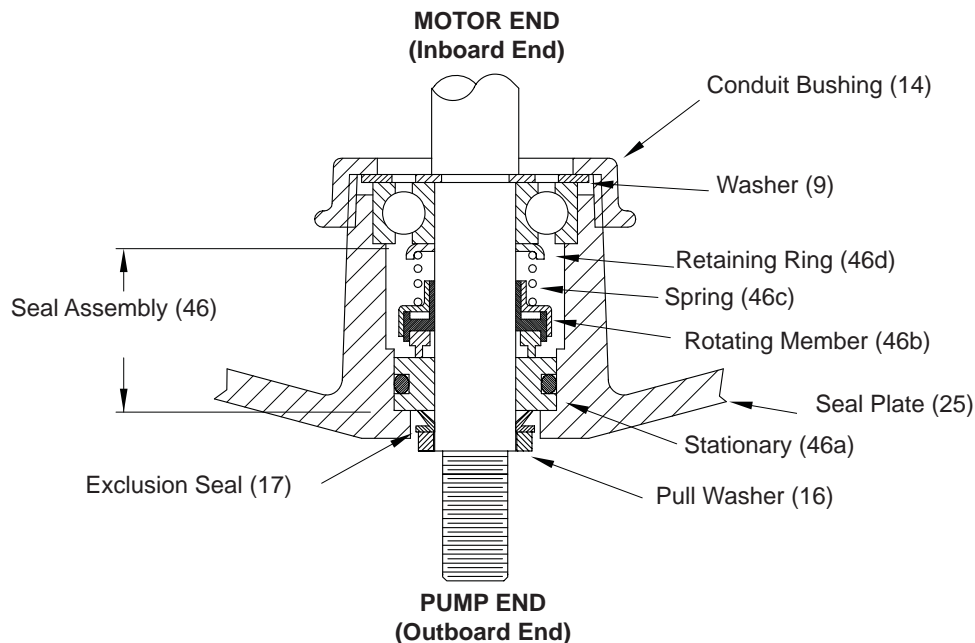

FIGURE 3
Seal - Remove rotating member (46a), spring (46c) and retaining ring (46d) from shaft. (See Figure 3). Examine all seal parts and especially contact faces. Inspect seal for signs of wear such as uneven wear pattern on stationary members, chips and scratches on either seal face. **DO NOT interchange seal components**, replace the entire shaft seal (46). If replacing seal, remove stationary (46a) from seal plate (25) by prying out with flat screwdriver.